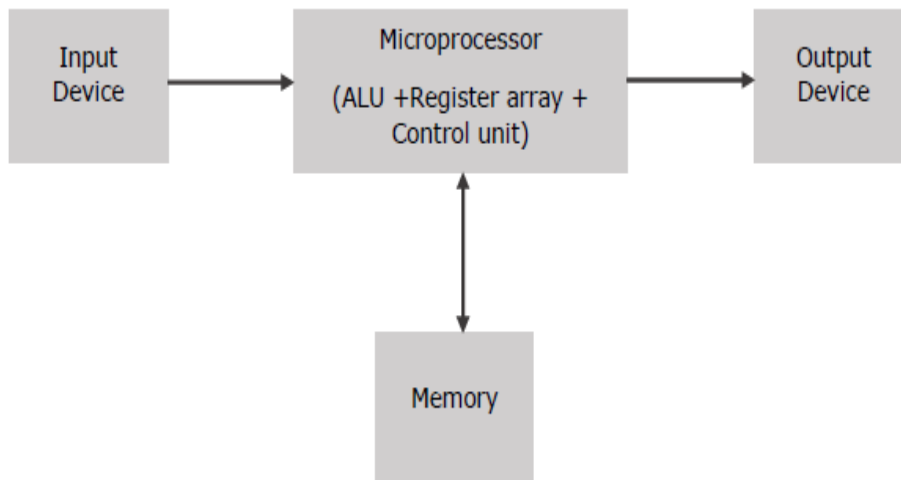

Figure 1 Block Diagram of Microprocessor system
Architecture of 8085 microprocessor is as shown in Fig. 1. In addition to the arithmetic & logic circuits, the ALU includes the accumulator, which is part of every arithmetic & logic operation. General purpose 8 bit registers B, C, D, E, H & L can be used singly or can be used as 16 bit register pairs BC, DE, HL. 8085 has 8 bit flag register which contains S (sign flag), Z (zero flag), AC (auxillary carry flag), P (parity flag) & CY (carry flag). These flags are used to show the status of the microprocessor before/after an operation. The Program Counter is a 16 bit register that is used to control the sequencing of the execution of instructions. This register always holds the address of the next instruction. The Stack Pointer (SP) is also a 16-bit register that is used to point into memory.